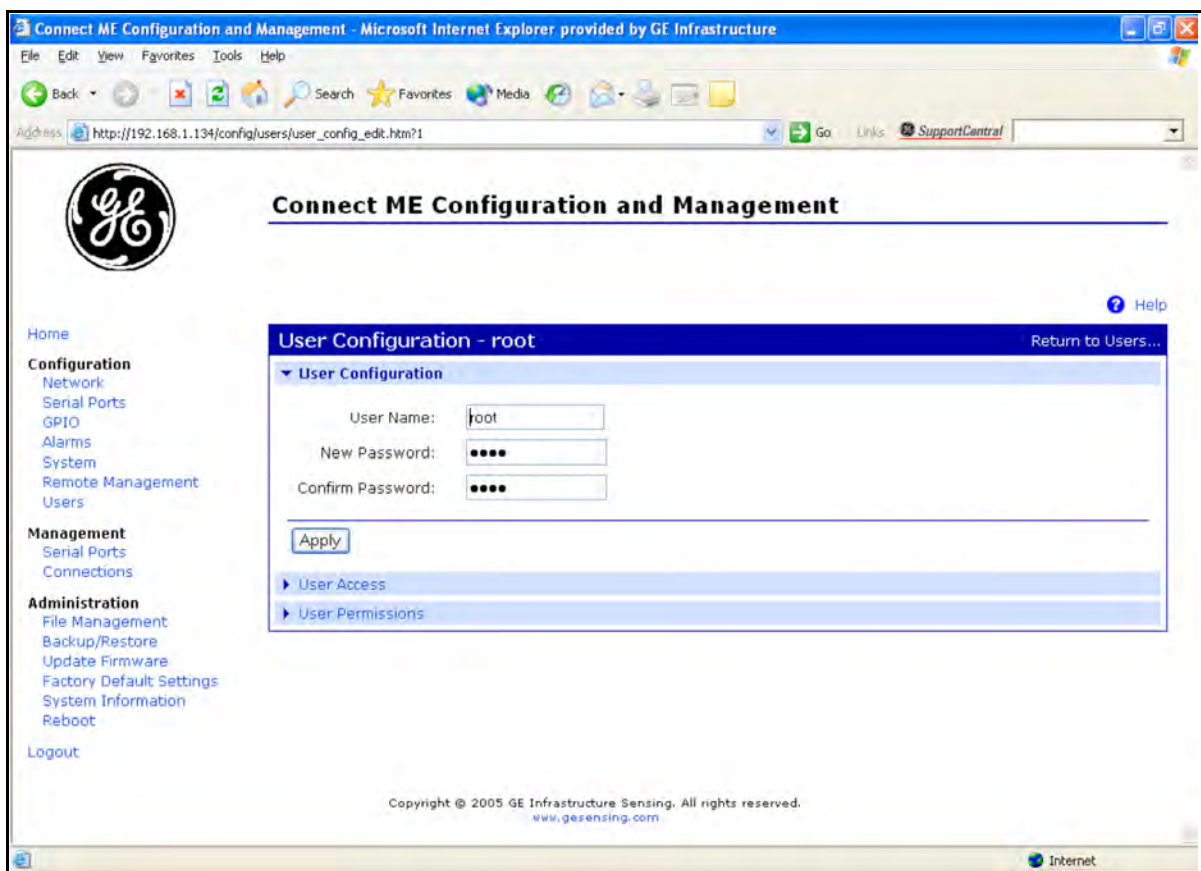

Figure 20: Changing the User Name and/or Password
5. Click on **New...** Figure 20 on page 39 appears.